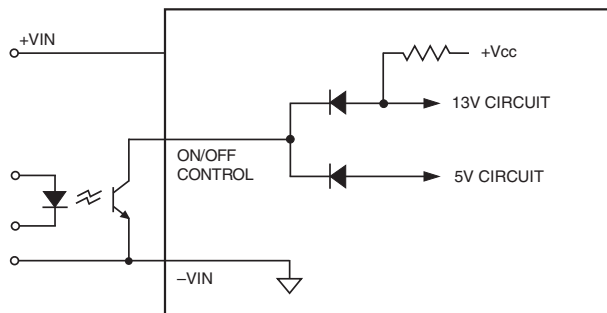

Figure 9. Driving the Negative Logic On/Off Control Pin (simplified circuit)
**Positive** (“P” suffix) logic models are enabled when the on/off pin is left open (or is pulled high, applying +3.5V to +15V with respect to –Input) as per Figure 9. Positive-logic devices are disabled when the on/off pin is pulled low (0 to 1V with respect to –Input).
high, applying +2.5V to +15V), and on when pin is pulled low (-0.1 to +0.8V) with respect to -Input as shown in Figure 9.